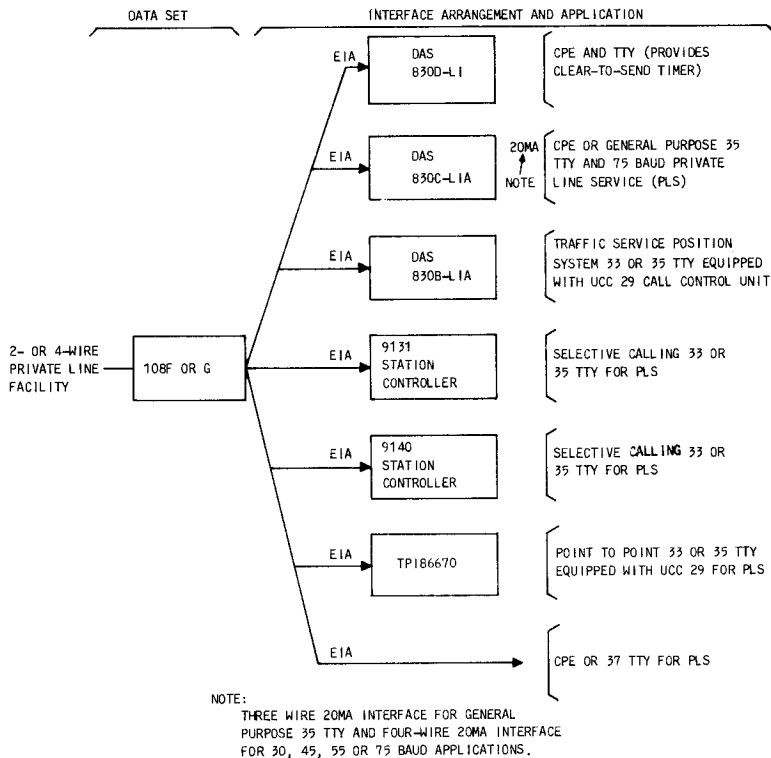

Fig. 2—DS 108F and G Interface Arrangements and Applications
1.01 This section contains the physical and functional descriptions and test facilities for data sets (DSs) 108F and 108G (Fig. 1) in private line (PL) service. These data sets function alone or with data auxiliary sets (DASs) 830B-L1A and 830C-L1A using customer-provided equipment (CPE) or Bell System teletypewriters (TTYs) hereafter referred to, collectively, as terminal equipment. Station arrangements with DS 108F and DS 108G used alone and in conjunction with DASs 830B-L1A and 830C-L1A are shown in Fig. 2.